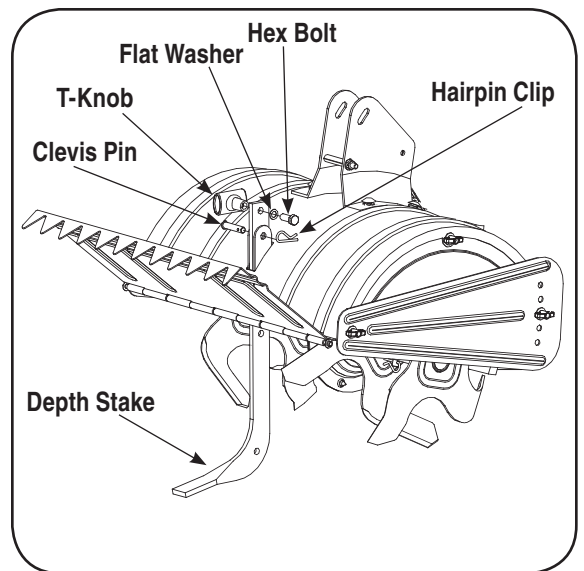

Figure 3-1
- Unthread the "T" knob from the top of the depth stake and remove the flat washer and hex bolt. Remove the hairpin clip from the clevis pin. See Figure 3-1.
- Insert a hex bolt into top hole of the depth stake assembly. Place flat washer on the hex bolt and thread "T" knob onto the hex bolt. Tighten securely. See Figure 3-1.